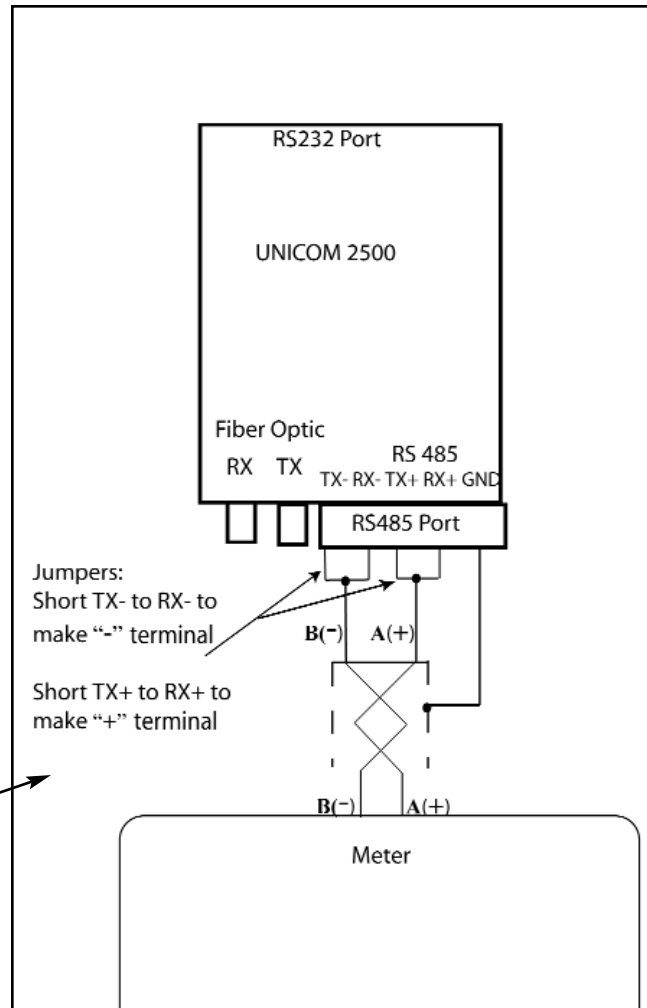

Figure 5.9: Detail of "Jumpers"
As shown in Figure 5.9, you connect the "RX-" and "TX-" terminals with a jumper wire to make the "-" terminal, and connect the "RX+" and "TX+" terminals with a jumper wire to make the "+" terminal.
- Insert the other end of the cable into the I/O module's female RS-485 side port (see Figure 5.9). The connectors fit only one way into the ports.
- Connect the A(+) and B(-) terminals on the Nexus to the A(+) and B(-) terminals of the female RS-485 port. Connect the shield to the shield (S) terminal. The (S) terminal on the Nexus 1250/1252 is used to reference the Nexus port to the same potential as the source. It is not an earth ground connection. You must also connect the shield to earth-ground at one point.